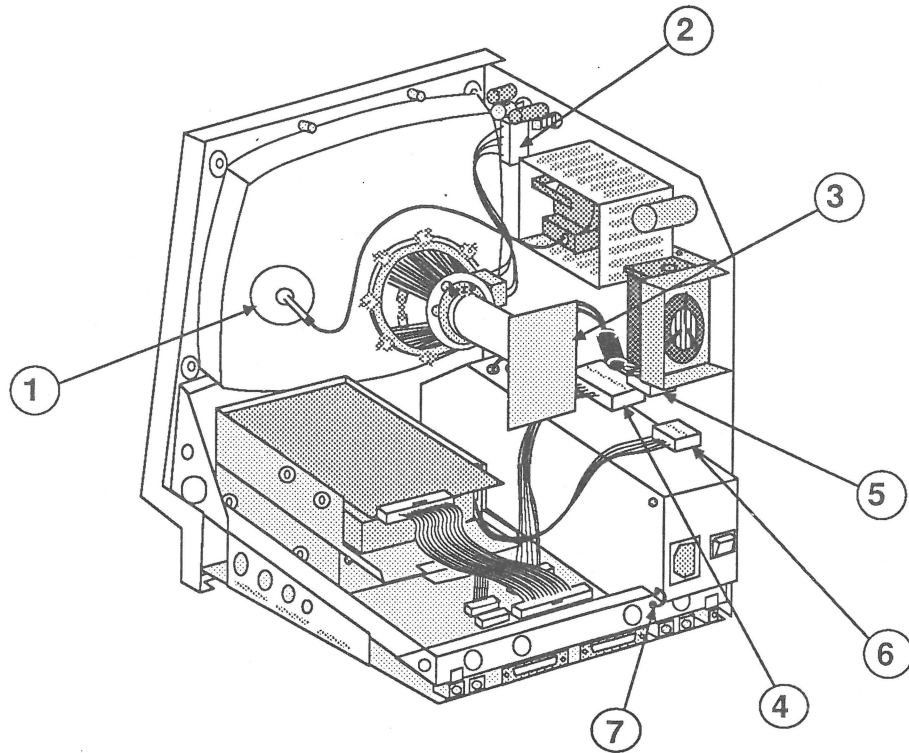

FIGURE 6
2. Remove the anode cap (Figure 6, #1).
4. Carefully pull the video board (Figure 6, #3) off the neck of the CRT.
- Yoke cable (Figure 6, #2) (First depress the tab.)
- Main logic board cable (Figure 6, #4)
- Video board cable (Figure 6, #5)
- Hard disk power cable, if present (Figure 6, #6)
6. Remove the screw holding the power supply ground wire to the chassis (Figure 6, #7).